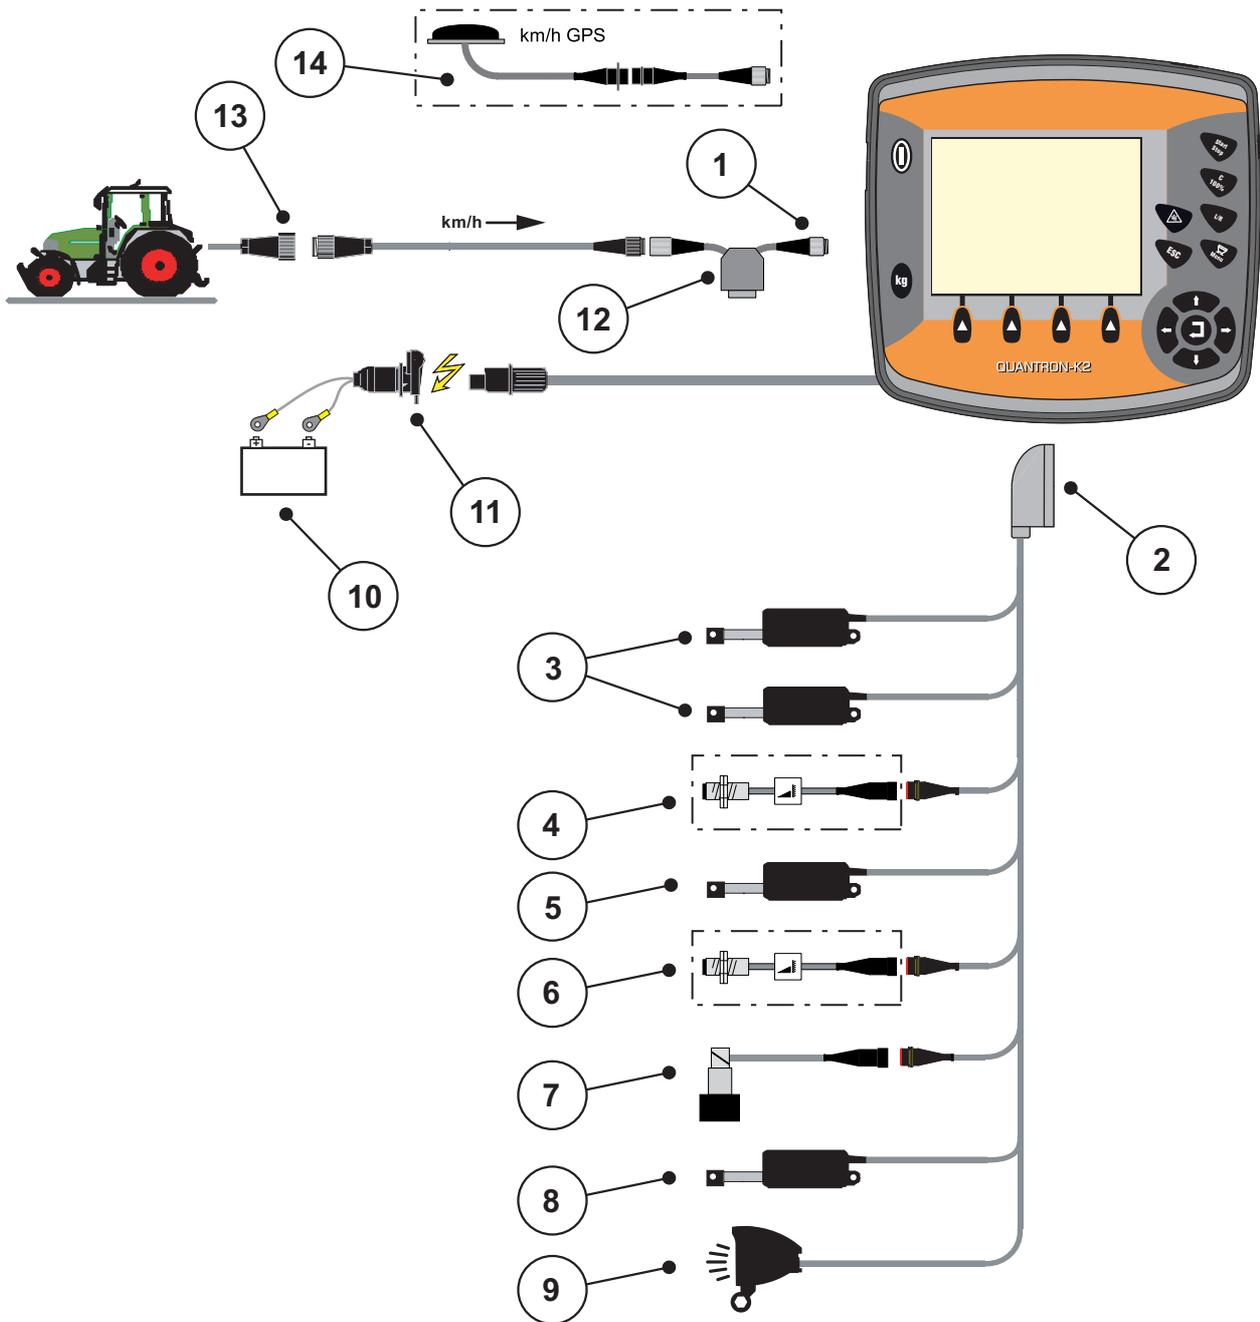
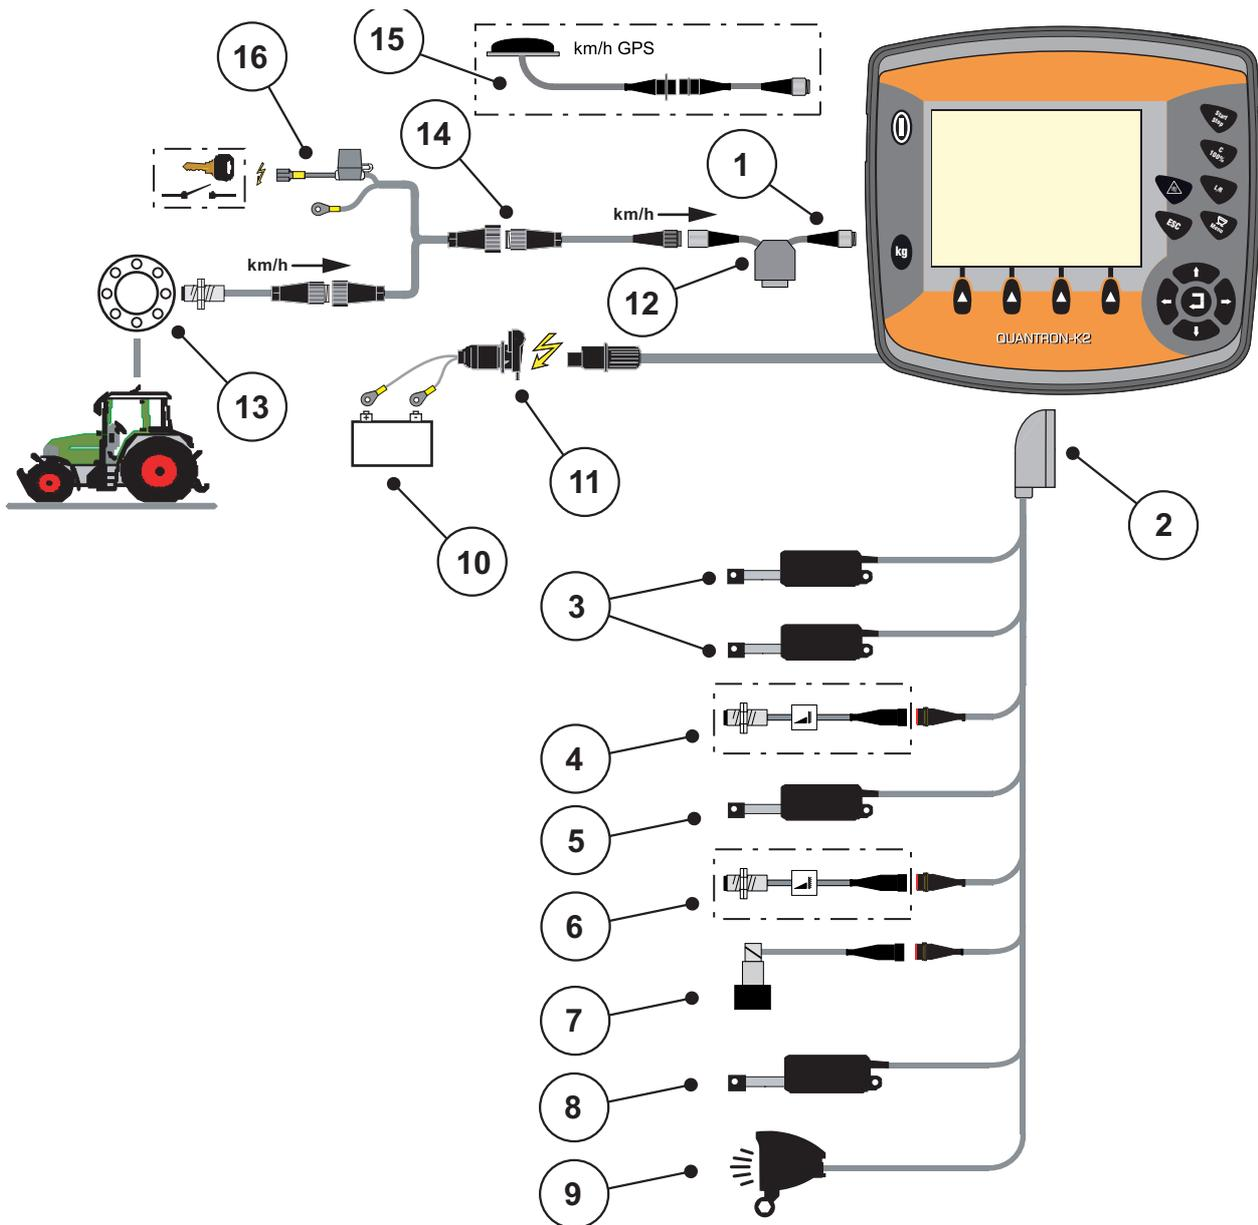

Figure 3.3: Schematic connection diagram QUANTRON-K2 (standard)
Figure 3.5: Schematic connection diagram QUANTRON-K2 (power supply via ignition lock)
- Connect the Control unit to the 7-pin socket or to the forward speed sensor (depending on the equipment, see figure 3.3 to figure 3.5).